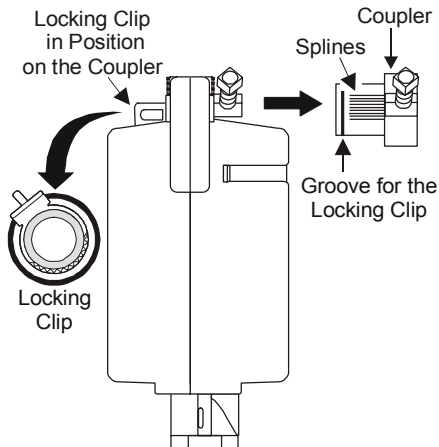

Figure 3: Changing the Position of the Coupler
To change the coupler's position, refer to Figure 3 and proceed as follows:
Note: The coupler splines (shown in Figure 3) are designed to prevent inserting the coupler at the wrong end of the rotation range.
- Remove the locking clip from the coupler. (See Figure 3.)